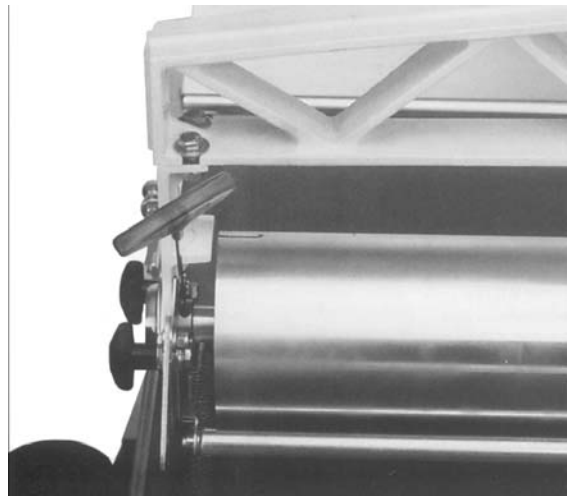

Figure 33
2. Loosen the set-screws in the bearing collar (Figure 33). Leave the set-screw wrench in one of the set-screws. Then rotate the drum within the bearing and tighten the set-screws.